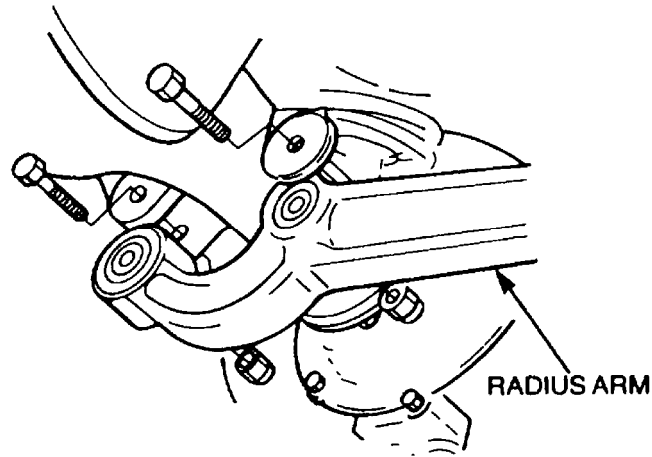

Figure 130 Radius Arm Removal
- h. Remove the locknuts and bolts, securing the radius arms to the axle case (Figure 130). Discard the locknuts.